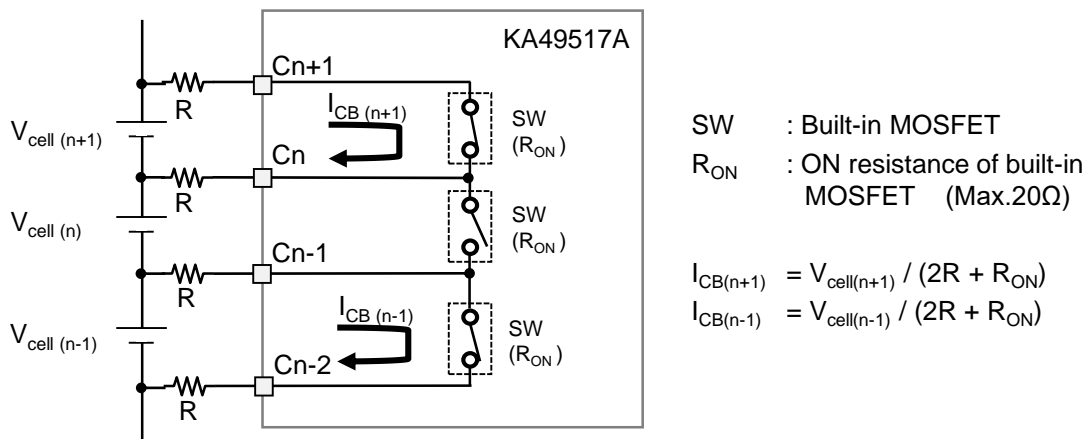

Fig.8.1.1 Circuit example in using the built-in MOSFET
- Adjacent cell ($V_{cell(n+1)}$ and $V_{cell(n)}$ shown in Fig.8.1.1) should not be operated in cell balance at the same time.
How to design cell balance with built-in MOSFET (See Fig.8.1.1)